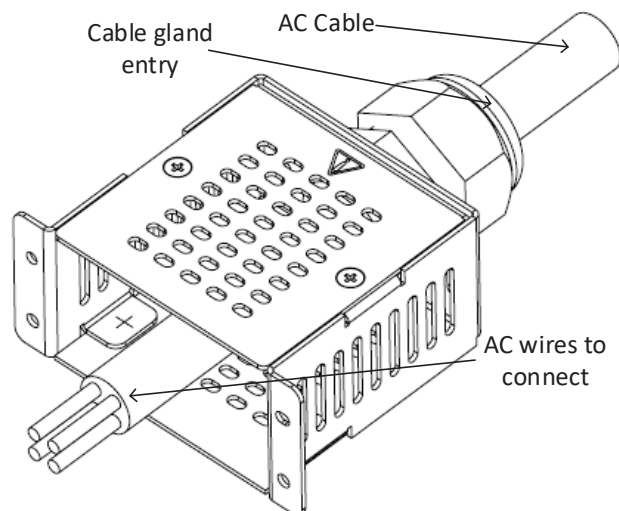

Figure 4-28: Stripped Wires Inserted Through
5. Insert the AC cable through the cable gland entry and the strain relief bracket as shown in Figure 4-28.